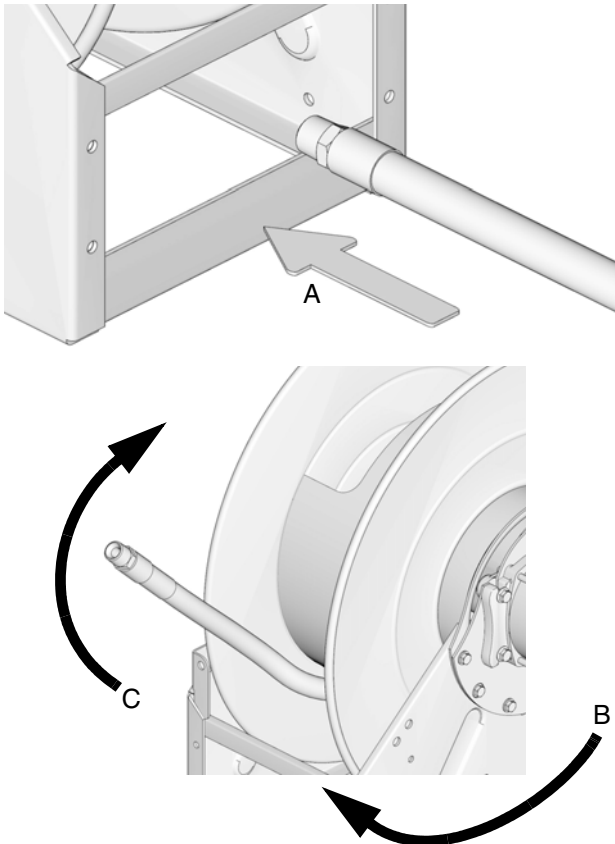

FIG. 77
- Feed end of the hose, through the reel frame (A), then under the reel (B), and around the back (C) of the spool (FIG. 77).